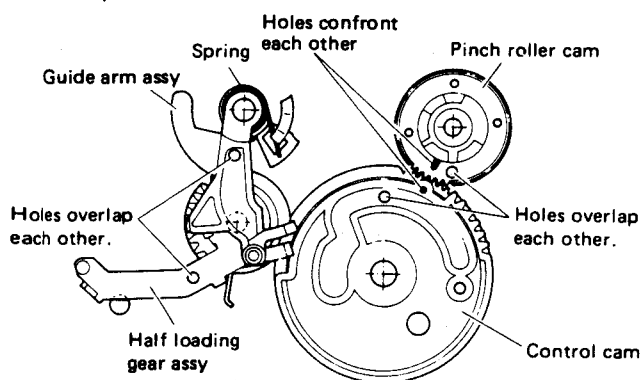

Fig. 1-1-10
1. On the main deck, observe the positional relationships of the parts indicated in Fig. 1-1-10.